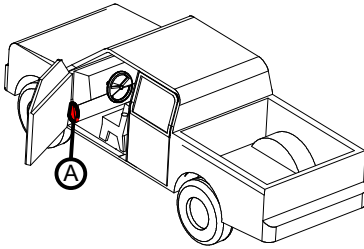

Figure A-1
2. Locate the rear door-ajar signal wire (**dark blue with white stripe**) wire on black connector below the hood-release lever (Area-A in Figure A-1). There should be two wires of this color; use the wire located on the row closest to the plug release.